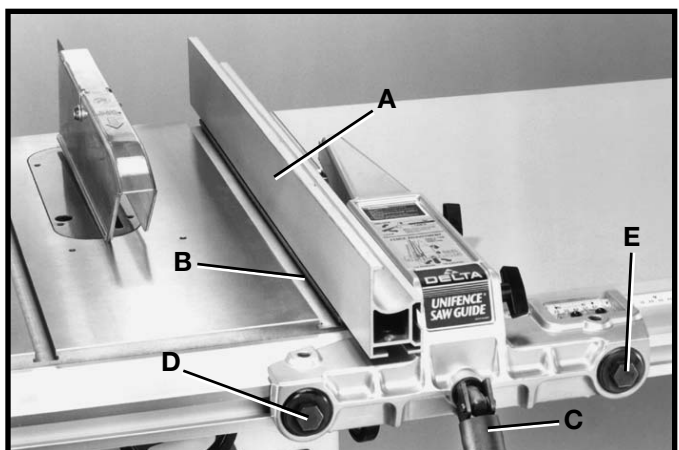

Fig. 115
The fence (A) Fig. 115, should be adjusted so it is parallel to miter gage slots (B). To check and adjust, move the fence (A) until the bottom front edge of the fence is in line with the edge of the miter gage slot, and push down on fence clamping lever (C). Check to see that the fence is parallel to the miter gage slot the entire length of the table. If the rear of the fence must be moved, slightly tighten or loosen one of the adjustment plugs (D) or (E) Fig. 115, using the arbor wrench or 7/8" wrench, until the fence is parallel with the miter gage slot. **IMPORTANT: DO NOT OVERTIGHTEN ADJUSTMENT PLUGS (D) AND (E) FIG. 115. VERY LITTLE MOVEMENT OF THESE ADJUSTMENT PLUGS IS NECESSARY WHEN ADJUSTING THE FENCE PARALLEL WITH THE MITER GAGE SLOT.**